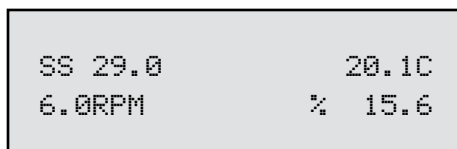

Figure II-12
The first press of the SELECT DISPLAY key would display Shear Stress (SS) in Dynes/cm² (or Newtons/m²), see Figure II-12: